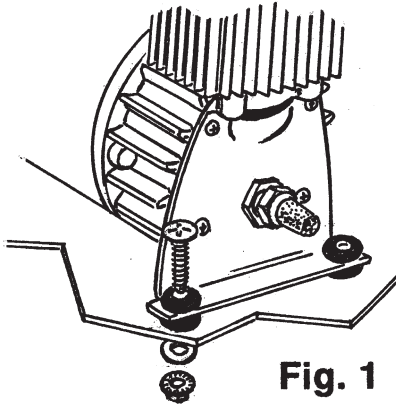

Fig. 1
2. Using the compressors mounting brackets as a template, mark the hole locations and drill to size 13/64". Secure the compressor to the mounting surface with the hardware provided. (Fig 1.)